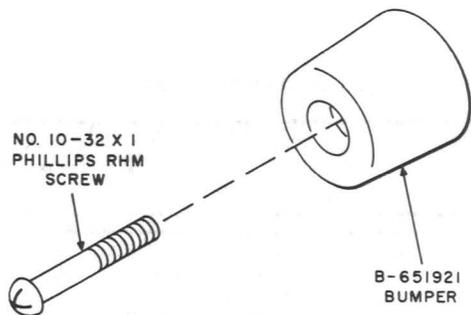

Fig. 29—B-651921 Bumper With Mounting Screw
*The B-651921 bumper (Fig. 29), listed in Table C, is a replacement part; however, all booths have not been equipped with these bumpers. A No. 10-32 tapped hole is provided on the right-side rail for installation. Ensure that this bumper, if required, is either present or installed on each maintenance check. Use screw described in Fig. 29.*